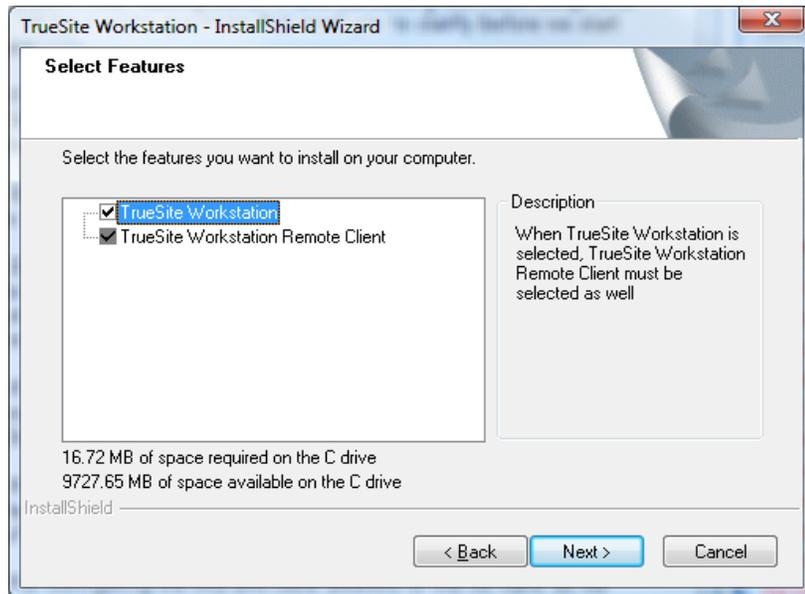

Figure 3-13 Select Features Dialog Box
- d. The **Select Features** dialog box appears. It is where you select which components of the TSW software to install (see Figure 3-13). For TSW installation on a TSW PC, you need to have both the TrueSite Workstation and the TrueSite Workstation Remote Client selected. Click **Next** to continue.